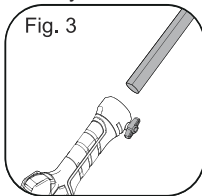

Fig. 3
1. Loosen the extension handle lock by rotating it anti-clockwise (Fig. 3)
2. Insert the extension handle into main handle tube (Fig. 3)